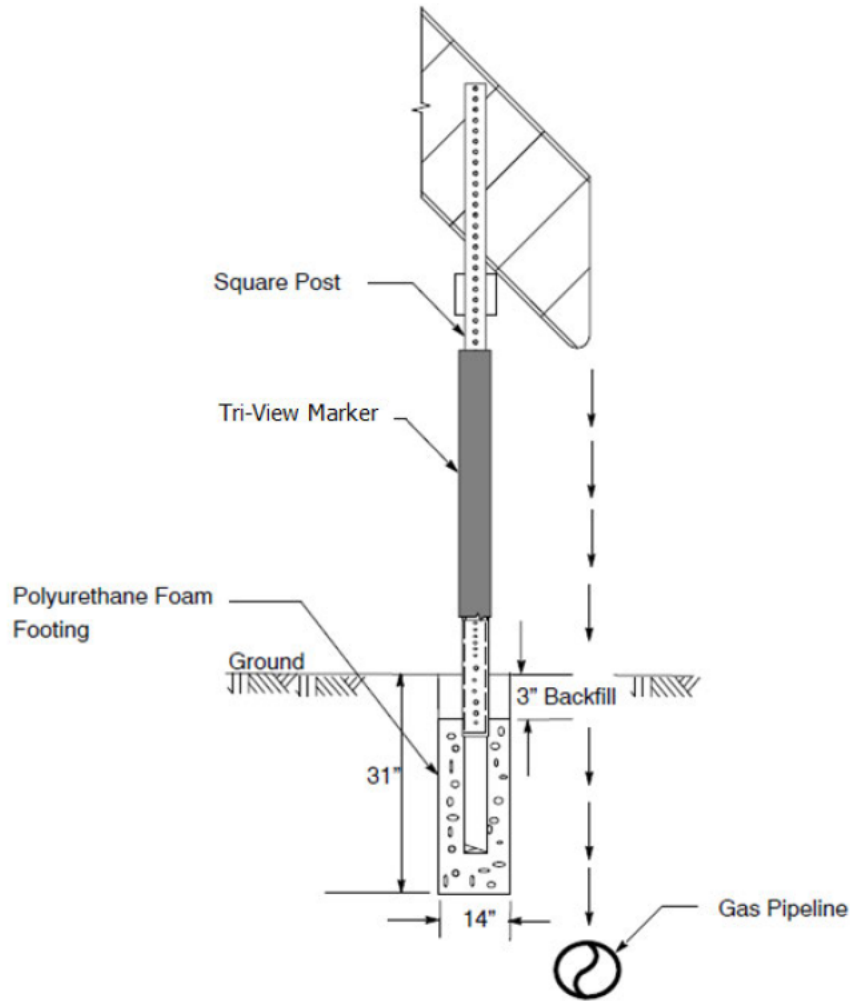

Figure 3. Paddle Marker Installation
- 3.6 Where practical, install each marker paddle perpendicular to the pipeline with the lowest corner's vertical drip line pointing vertically downward towards the pipeline. See Figure 3, "Paddle Marker Installation," below, and GDS L-11.1, "Pipeline Paddle Markers," for design specifications.
1. Install the vertical plane of the orange and white paddle perpendicular to the pipeline, with the lowest corner’s vertical drip line pointing vertically downward toward the pipeline. See Figure 3, “Paddle Marker Installation” below.